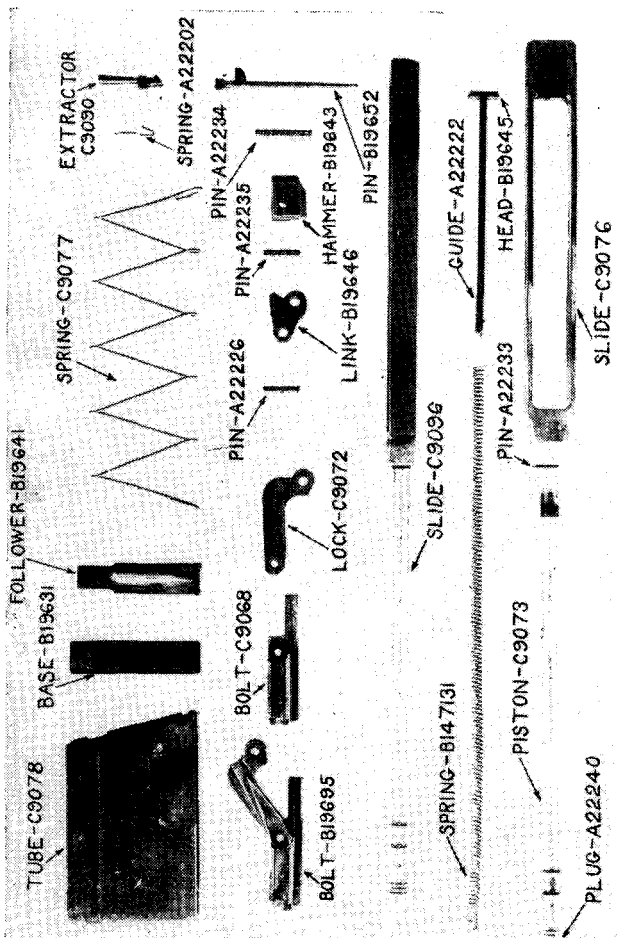

FIGURE 2.—Gas piston and bolt group parts.
(1) *Operating group.*—Lay the rifle on the table, barrel down, pointing to the left. Cock the piece. This must be done in order that the gas cylinder tube may clear the gas piston and gas cylinder tube bracket. Turn the cylinder tube retaining pin spring ((54), fig. 1 (2)), 180° in a clockwise direction and lift out gas cylinder tube (52) retaining pin. Remove the gas cylinder tube and forearm (118). Let the slide (fig. 2) forward *easily* by pressing the trigger with the thumb of the right hand and at the same time grasp the slide with the left hand so that the middle and index fingers are astride the gas piston. Turn the trigger guard retaining pin spring ((12), fig. 1 (2)), 90° in a clockwise direction and lift out the pin. Lift out the trigger guard group.
Remove the recoil-spring guide (Fig. 2) and the recoil spring by pressing the right index finger on the checkered surface of the recoil-spring rod and turning it until the ends are clear of the retaining shoulders. Line up the hammer-pin holes on the receiver and the operating handle by inserting the point of the recoil-spring guide or the point of a dummy cartridge in the hole on the operating handle with the right hand, press against the hammer pin and push the operating handle backward with the left hand. The recoil-spring guide will push the hammer pin through its hole in the receiver as the hammer pin registers with the latter. Remove the operating handle ((88), fig. 1 (2)) by pulling it straight to the rear. Remove the hammer pin. Push the hammer (fig. 2) forward out of its seat in the slide and lift it out of the receiver. Remove the slide by pulling it forward out of the receiver, being careful that the bolt link is pushed well down, thus allowing the slide to clear. In removing the slide, take care to avoid striking the gas piston or rings against the gas cylinder tube bracket ((56), fig. 1 (2)). Force the bolt guide (72) out with the left thumb or the point
of a bullet. Lift out the bolt, bolt lock, and bolt link by pulling them slowly to the rear end of the receiver and up with right thumb and forefinger. Pull out the firing pin (fig. 2) from its way in the bolt. Push the bolt-link pin and remove the bolt link. Remove the extractor by pressing the point of a dummy cartridge against the claw and exerting pressure upward and to the front. Remove the extractor spring.
(b) Insert the trigger guard retaining pin spring under the sear spring above the connector stop. Pry up, pressing against the sear spring with thumb and pull it out to the rear. (See fig. 8.) Push out the trigger pin (see fig. 9). The trigger pin must always be removed before the sear pin in order that the tension of the counterrecoil spring will always be on the sear pin. Remove the trigger and connector through top of trigger guard. (See fig. 10.) Push out the sear pin, using the recoil spring guide (fig. 2). Remove the sear (see fig. 11). Pry up on the sear carrier (see fig. 12) and lift out the sear carrier and counterrecoil spring. Remove the change lever spring by prying the bent end out of its seat with the rounded end of the sear spring and moving the change lever from front to rear. When clear of the change lever, push it out the rest of the way by pressing with the thumb against the sear stop. Pull out the change lever.